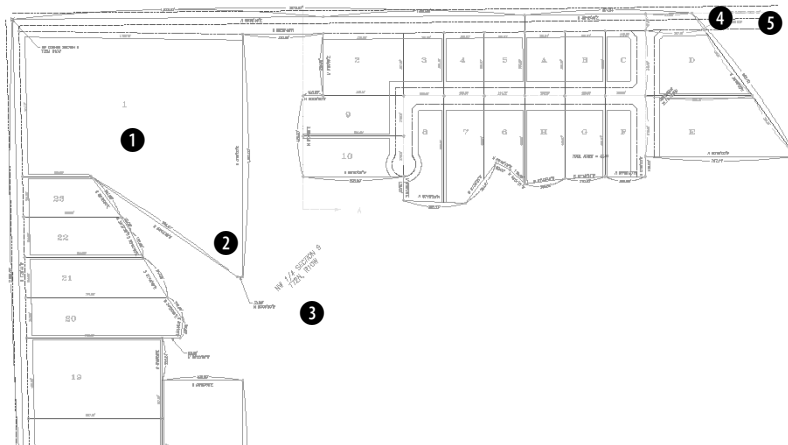

**Figure 13-18:** The plat drawing.
2. Save the file as **ab13-05.dwg** in your AutoCAD Bible folder. This is a plat drawing, as shown in Figure 13-18.
3. Choose Multiline Text from the Draw toolbar. At the prompts, pick points ❶ and ❷ in Figure 13-18. The In-Place Text Editor opens. In the Text Height box, type a height of **12.5**. In the main editing box, type the following:
5. Open Windows Explorer (Start ⇨ Programs ⇨ Windows Explorer). Find ab13-c.txt on your CD-ROM. Move the Windows Explorer window so that you can see both ab13.txt and your drawing screen. Drag ab13-c.txt from the Windows Explorer window to ❸ in Figure 13-18. If necessary, pick a grip, press the Spacebar once to choose the Move option, and click at the proper location.
8. Choose View ⇨ Zoom ⇨ Previous to return to your original view. Use Zoom Window to zoom in to the area bounded by ❹ and ❺. Set the current layer to 0, which is a gray color.
10. At the prompt, pick ❹ and ❺, centering the boundary box around the yellow centerline. In the Text Height box of the Text Formatting toolbar, change the text to 12.5. The text style should be ROMANS. Type the following text: